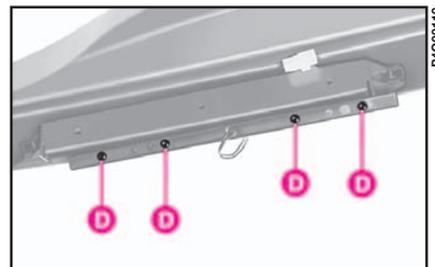

fig. 33
3) loosen the four screws **D**-fig. 33 and separate the bulb unit from the lens;